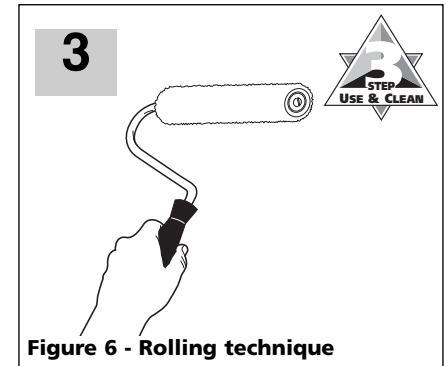

Figure 6 - Rolling technique
5. Use the same painting technique as you would if using a manual roller (see Figure 6). Remember only to turn motor on to 'Low' when you need more paint. Do not over-saturate the roller cover.